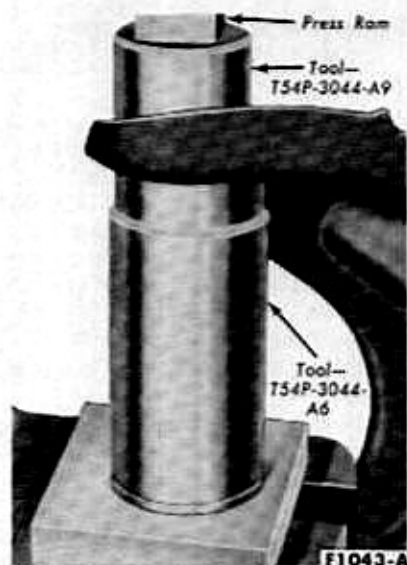

FIG. 5—Upper Arm Rear Bushing Installation
4. Press a new rear bushing into the arm (Fig. 5). The bushing flange should be at the outer side of the arm.